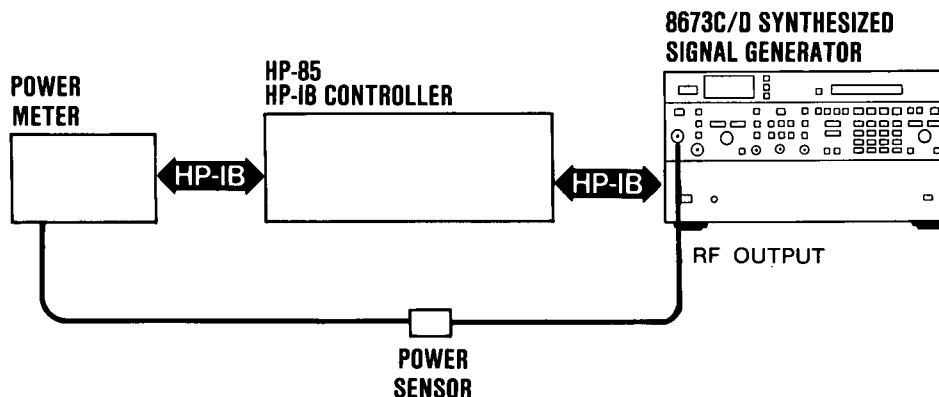

Figure 8-22. HP 8673C/D Power Output Test Setup
48. Connect the test equipment as shown in Figure 8-22.